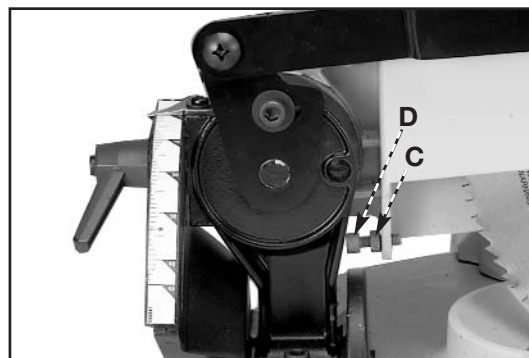

Fig. 21
1. Loosen lock nut (C) Fig. 21 and turn adjustment knob (D) right or left.
3. Tighten lock nut (C) Fig. 21 after adjustment is made.